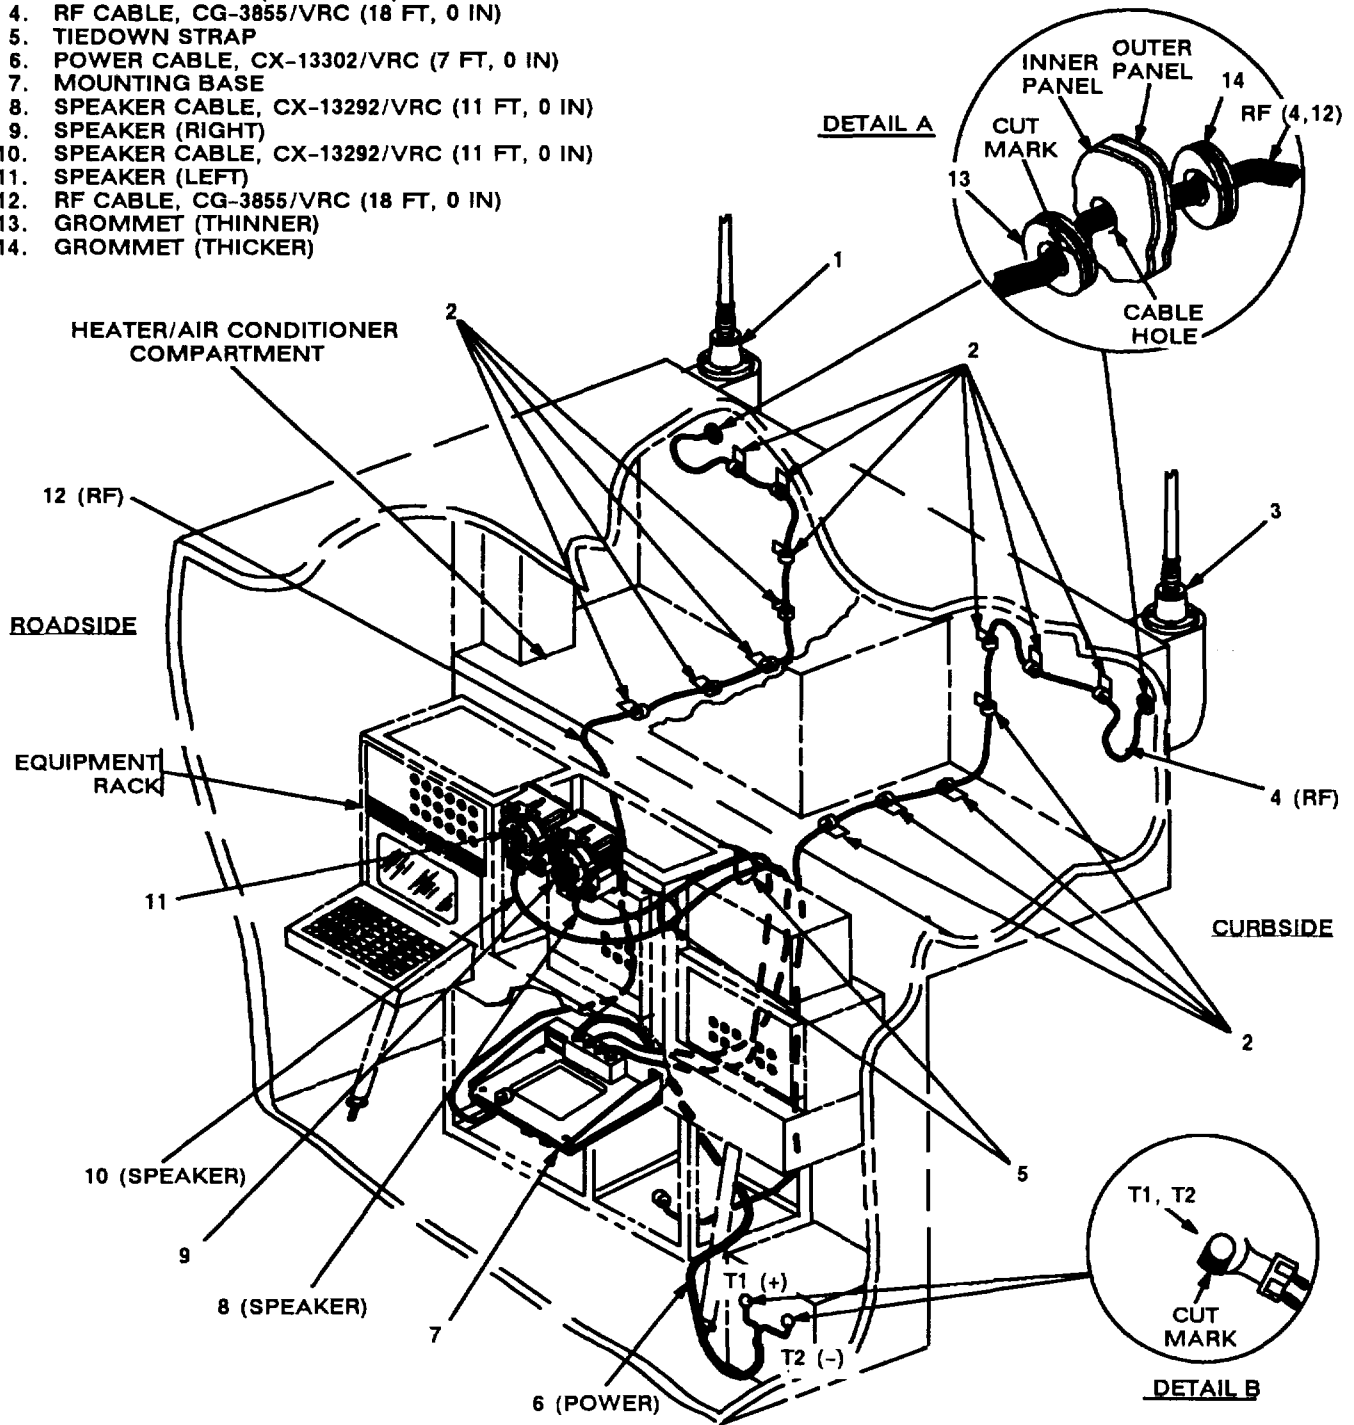

Figure 5-6. Cable Installation: RF, Speaker and Power Cabling
a. RF cable (12) connector P2.	Position on top of mounting base (7). See figure 5-6.
b. RF cable (12).	Route above mounting base (7) through equipment rack and roadside heater/air conditioner compartment to upper front wall.
d. Seven loop clamps (2), seven pan-head tapping screws (1/4-14 x 3/4 in) and seven lock washers (1/4 in).	Wrap clamps around RF cable (12); then install to holes drilled in step c.	Tools: Phillips screwdriver.
e. RF cable (12) connector P1.	Insert through cable hole; then connect and secure to antenna base (1) connector J1. See figure 5-6.
g. Speaker cable (10) connector P1.	Connect and secure to speaker (11) connector J1. See figure 5-6.
h. Speaker cable (8) connector P1.	Connect and secure to speaker (9) connector J1.
i. Speaker cables (8, 10).	Route behind equipment rack to rear of mounting base (7).
j. Speaker cable (10) connector P2.	Connect and secure to mounting base (7) connector J3.
k. Speaker cable (8) connector P2.	Connect and secure to mounting base (7) connector J4.
l. Two tiedown straps (5).	Wrap around speaker cables (8, 10) and install loosely to equipment rack. See figure 5-6 for location(s).
m. RF cable (4) connector P2.	Position on bottom right shelf of equipment rack. See figure 5-6
n. RF cable (4).	Route up wall behind equipment rack and through curbside heater/air conditioner compartment to upper front wall.
p. Seven loop clamps (2), seven pan-head tapping screws (1/4-14 x 3/4 in) and seven lock washers (1/4 in).	Wrap clamps around RF cable (4); then install to holes drilled in step o.	Tools: Phillips screwdriver.
q. RF cable (4) connector P1.	Insert through cable hole; then connect and secure to antenna base (3) connector J1. See figure 5-6.
t. Power cable (6).	Route behind equipment rack to rear of mounting base (7).
v. Power cable (6) connector P2.	Connect and secure to mounting base (7) connector J1. See figure 5-6.